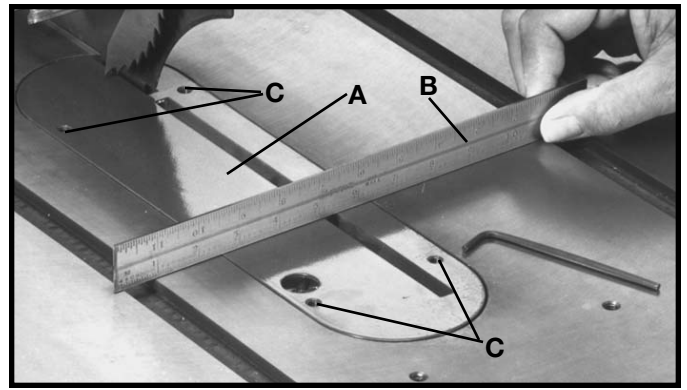

Fig. 113
Place a straight edge (B) across the table at both ends of the table insert as shown in Fig. 113. The table insert (A) should always be level with the table. If an adjustment is necessary, turn the adjusting screws (C), as needed, with allen wrench supplied. **NOTE: THE MITER GAGE HANDLE CAN BE USED TO STORE THE ALLEN WRENCHES WHEN NOT IN USE. REMOVE THE TOP CAP OF THE MITER GAGE HANDLE FOR THE ALLEN WRENCH STORAGE COMPARTMENT.**